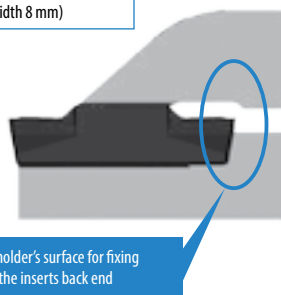

Fig. 2
4. Make sure that there is no gap between the insert and the back end of the toolholder's surface and that the insert is set straight (Ref. to Fig. 2 and 3).